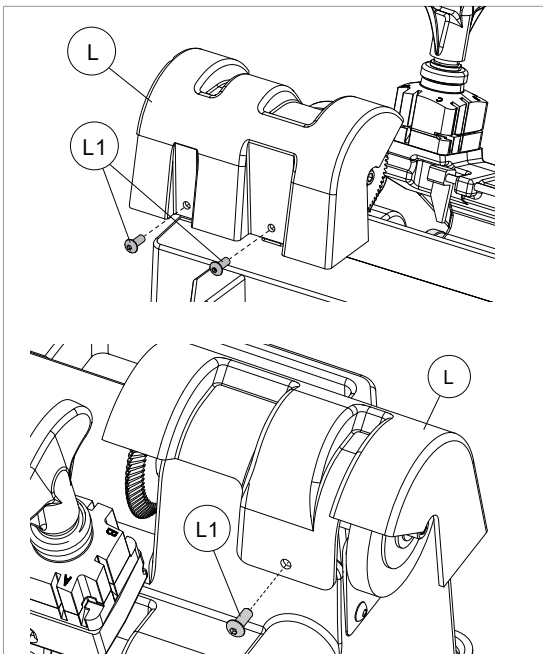

Fig. 33
- 1) Remove the cover (L) by loosening the 3 screws (L1) (Fig. 33).